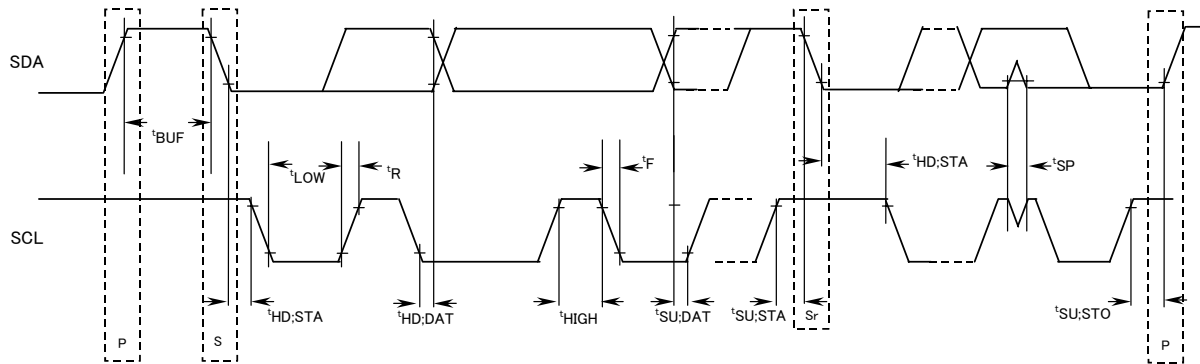

Fig.1 Definition of timing on the I²C-bus
3) Note that the maximum t_F for the SDA and SCL bus lines quoted in Table 1 (300ns) is longer than the specified maximum t_{OF} for the output stages (250ns). This allows series protection resistors (R_s) to be connected between the SDA/SCL pins and the SDA/SCL bus lines as shown in Fig. 1 without exceeding the maximum specified t_F.